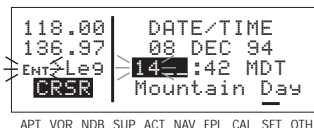

Figure 3-165
- Select the correct hour (figure 3-165). Remember, the KLX 135A uses 24 hour time. If it is 1:00 P.M. or later, add 12 hours (for example, 2:30 P.M. becomes 14:30).